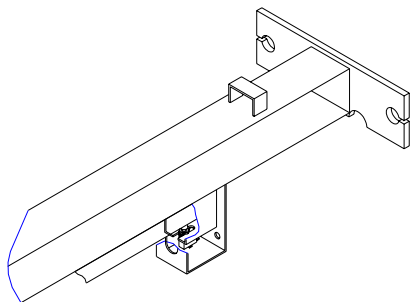

Fig. 10
**Using (2) 1/4-20 X 1/2 HHCS and (2) 1/4-20 Flange Lock Nuts attach the overhead switch assembly to the overhead beam as shown in figure 10.**